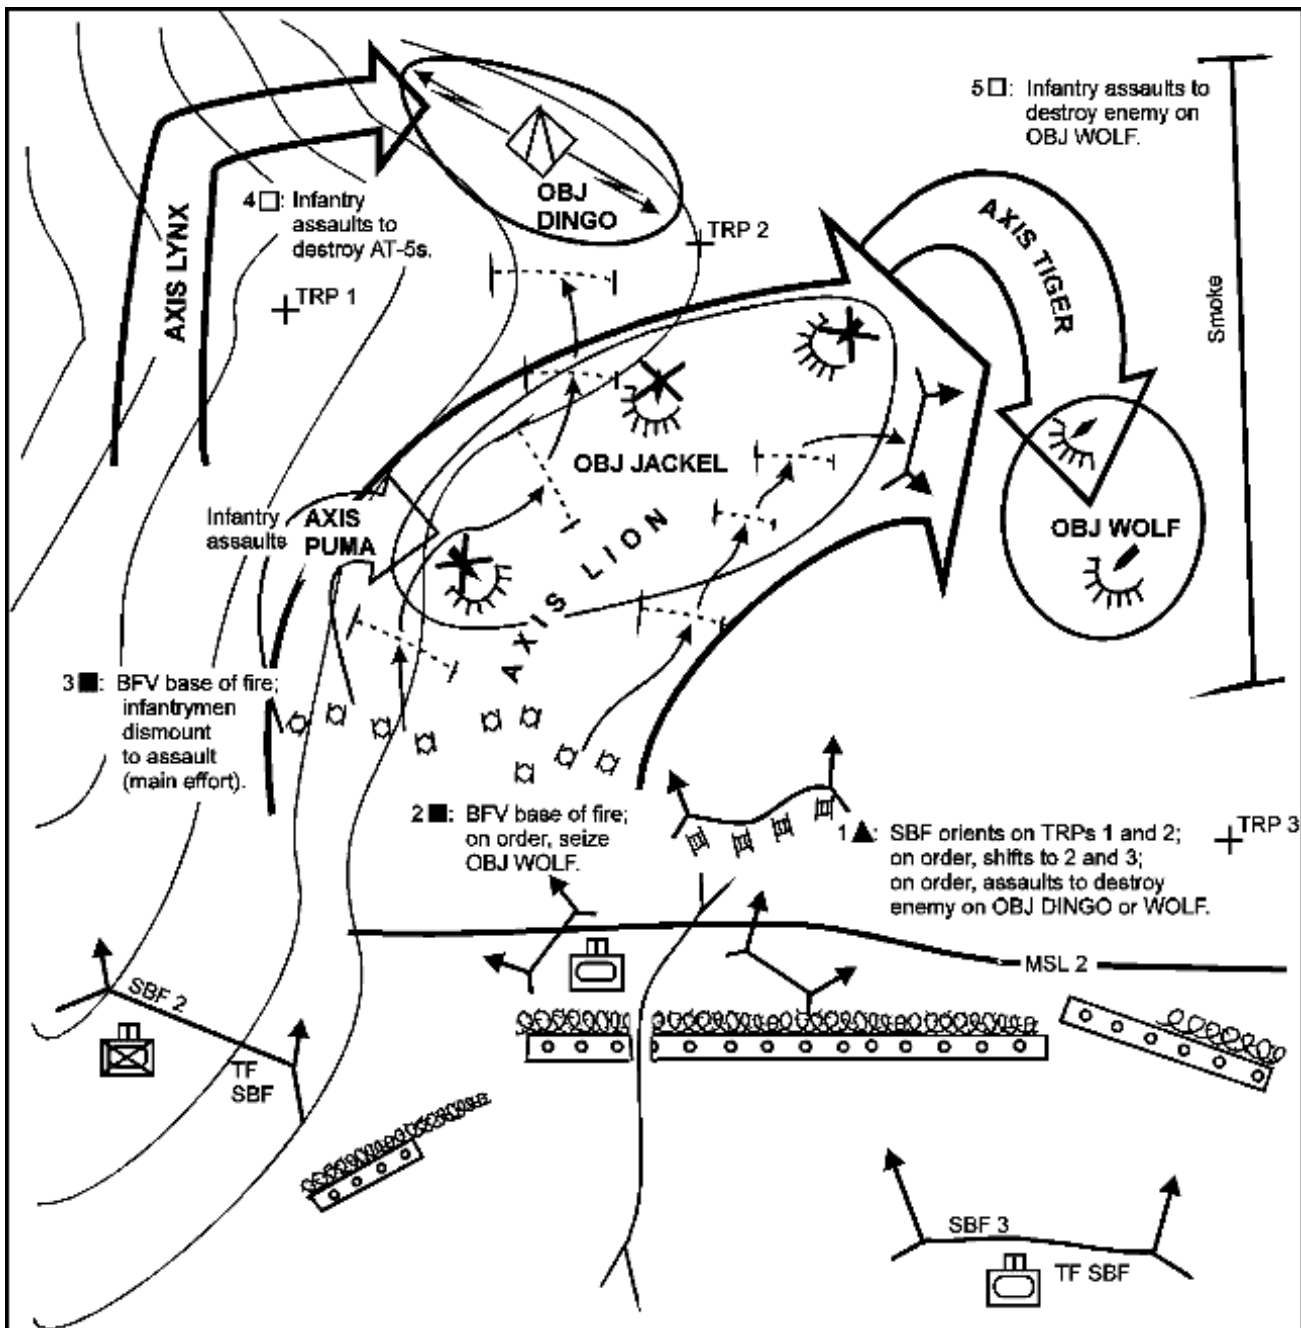

Figure 3-25. Example of a company team conducting an assault of an attrited MRC as the assault force in a task force deliberate attack.
- If the company team is conducting an assault as part of a task force attack, other company teams within the task force will normally have the responsibility to suppress the enemy on the objective area from designated support by fire positions. These teams may be the same support forces that protected the breach force; however, terrain factors may require them to reposition to provide effective support for the assault force. (**NOTE:** Figure 3-25 illustrates company teams providing this type of protective fires.)
**NOTE:** Figure 3-25 illustrates various phases of the assault; these actions, which are covered in the following discussion, include the assault breach, the aboveground fight, and the belowground fight.